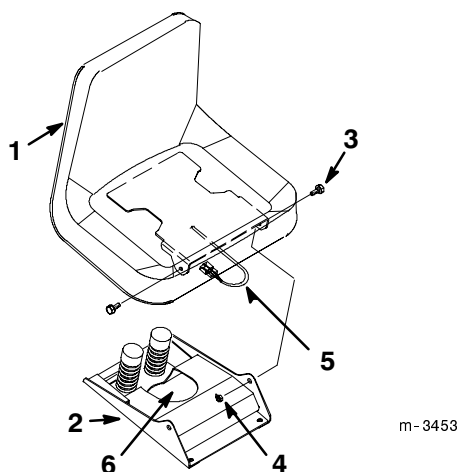

Figure 6
1. Mount the seat to the seat base using two 5/16 in. shoulder bolts and locknuts (Fig. 6).
2. Insert the seat switch wire through the center opening in the seat base (Fig 6).